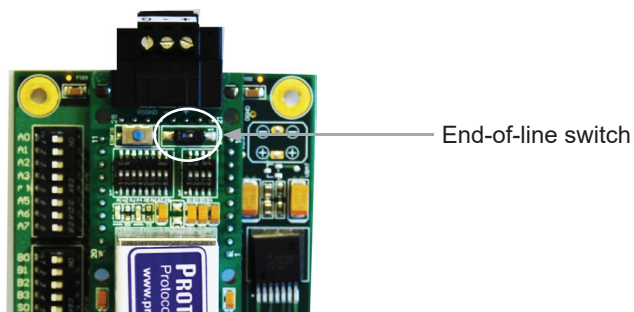

Figure 15: RS-485 EOL switch
- If the ProtoNode is the last device on the BACnet MS/TP or Metasys N2 trunk, the end-of-line terminator must be enabled (see Figure 15). It is disabled by default.